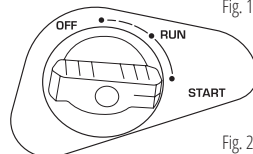

Fig. 2
4. Turn the air choke control knob to the "START" position (fig. 2).